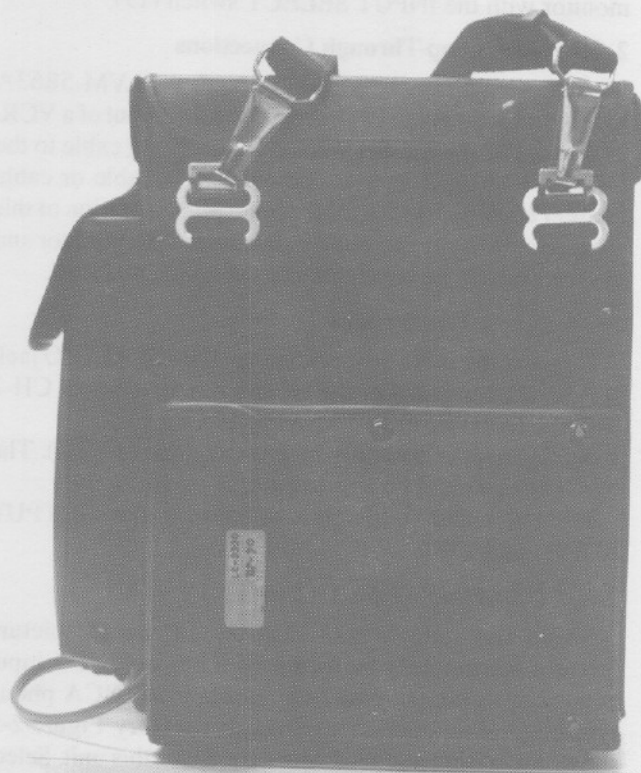

Figure 2-6. BP-90 installation
6. Press the BP-90 carrying case against the main unit carrying case to engage the fastener strips. See Figure 2-6.